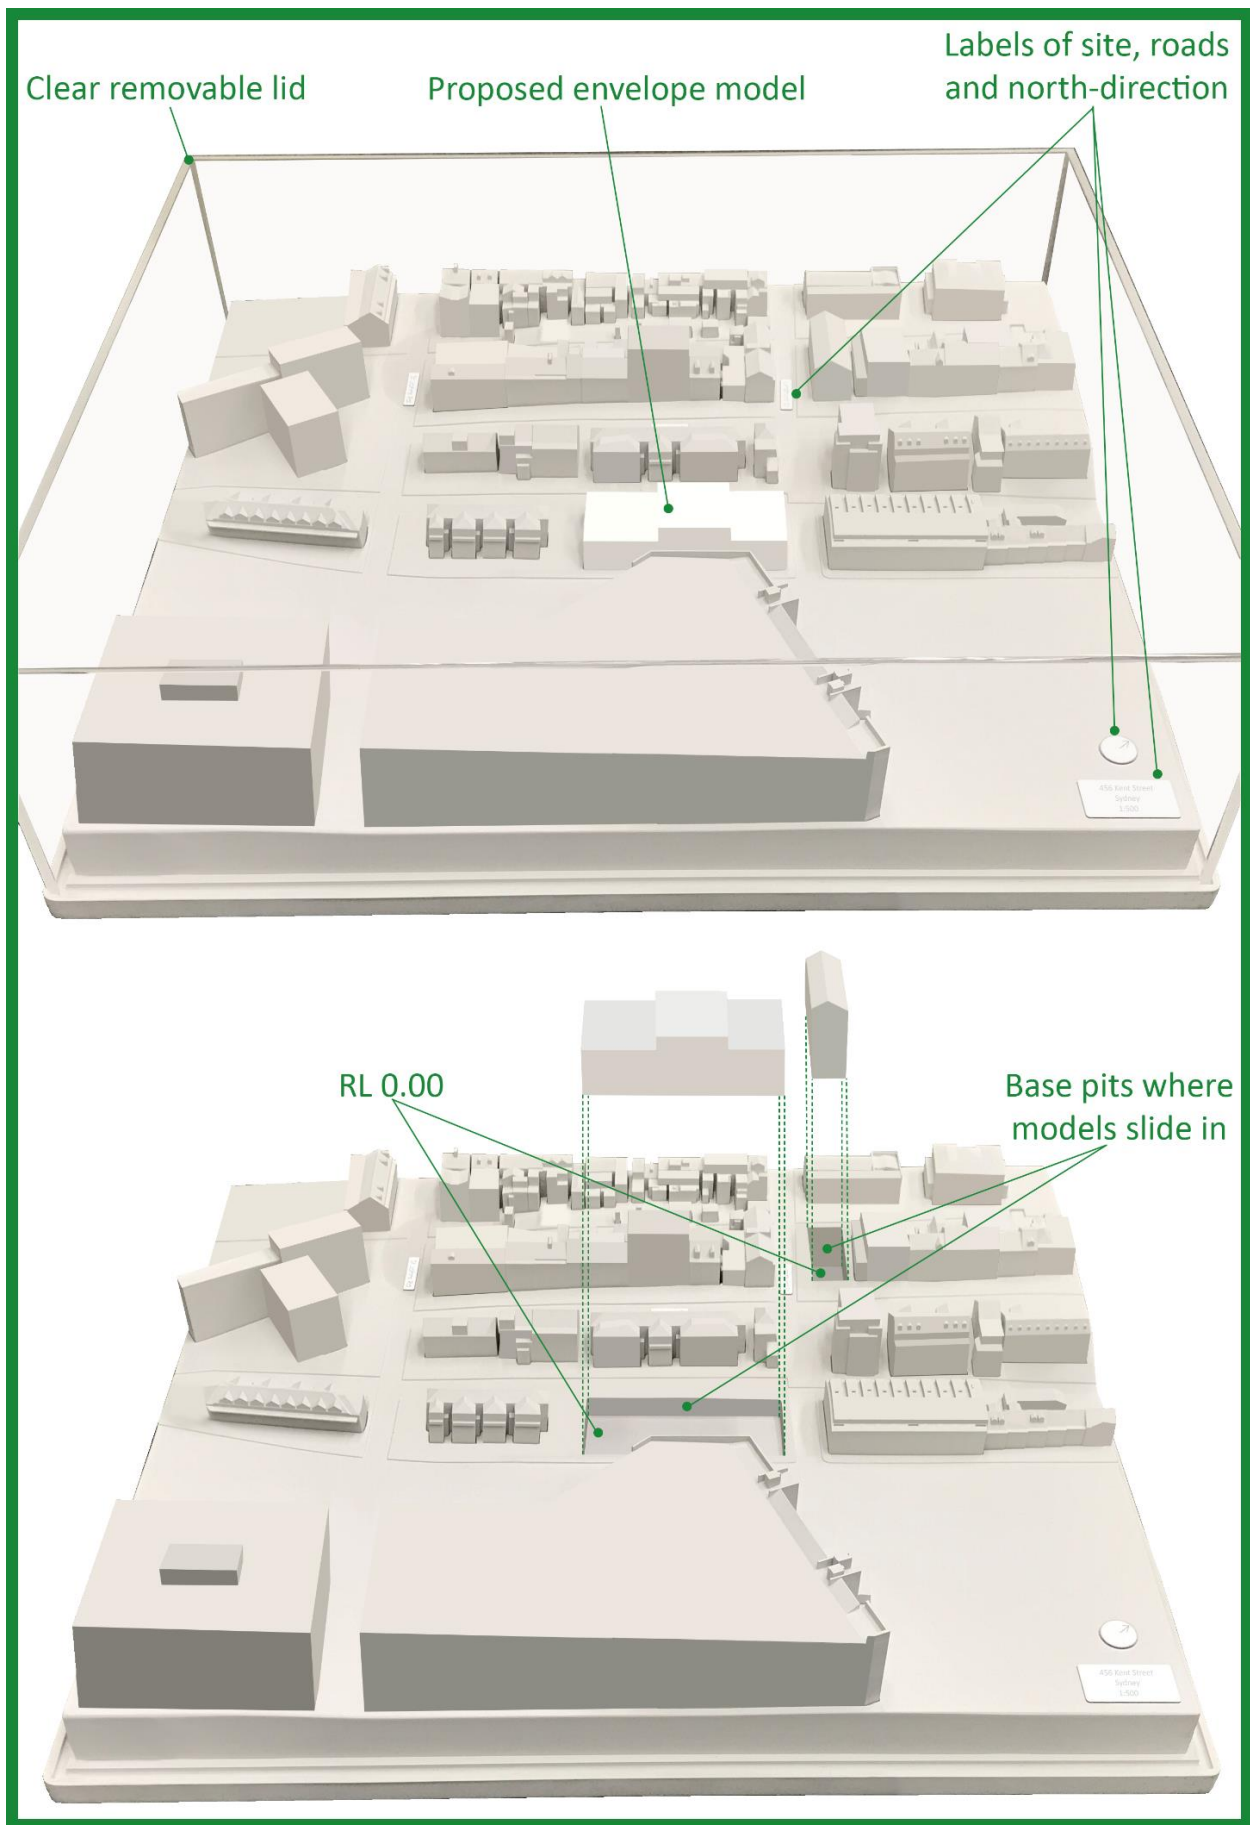

Figure 3. Level of details for an envelope 3D physical model.
- 3D physical envelope models (Figure 3) are required for Concept and Reference Design, Planning Proposal and Design Competition.